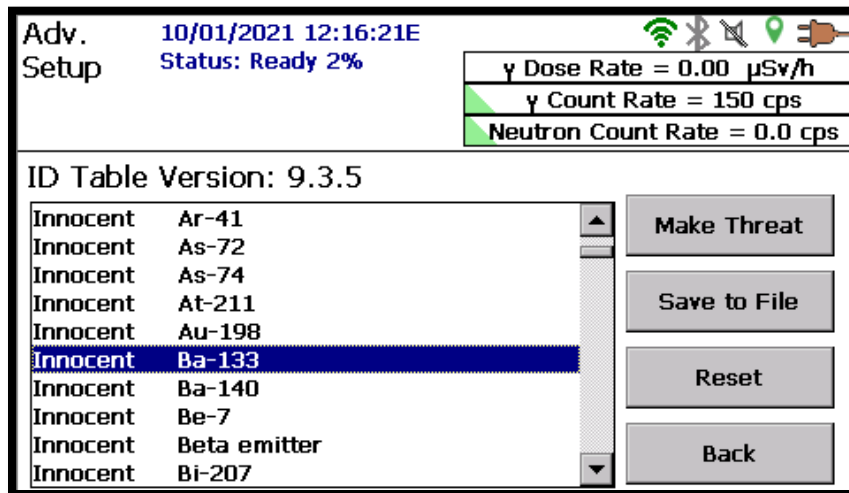
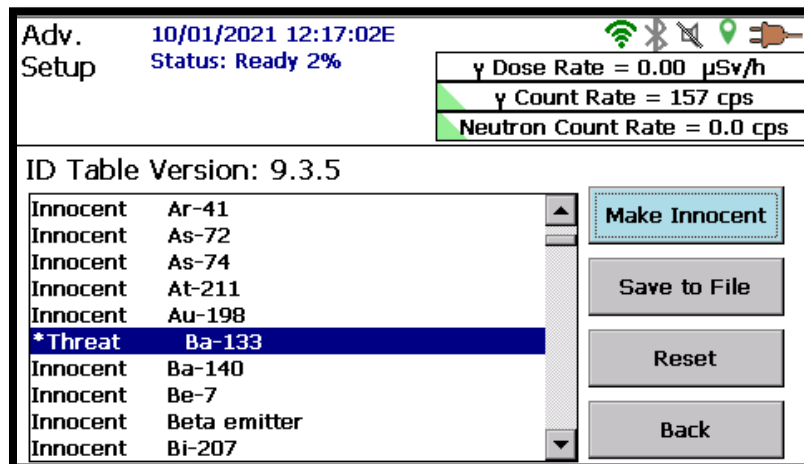

Figure 103. Preparing to Change Default Innocent Nuclide to Threat Status
Figure 104. Default Innocent Nuclide Changed to Threat Status (and Marked with Asterisk)
- To change an innocent nuclide to threat status, tap the scrollbar or use the up/down arrow buttons (▲▼) to move through the list, tap to highlight the desired nuclide (Figure 103), then tap the top-right button, which will be labeled **Make Threat** (the button will be disabled for default threat nuclides). An innocent nuclide that has been changed to threat status will be marked in the list with an asterisk (\*), as shown in Figure 104.